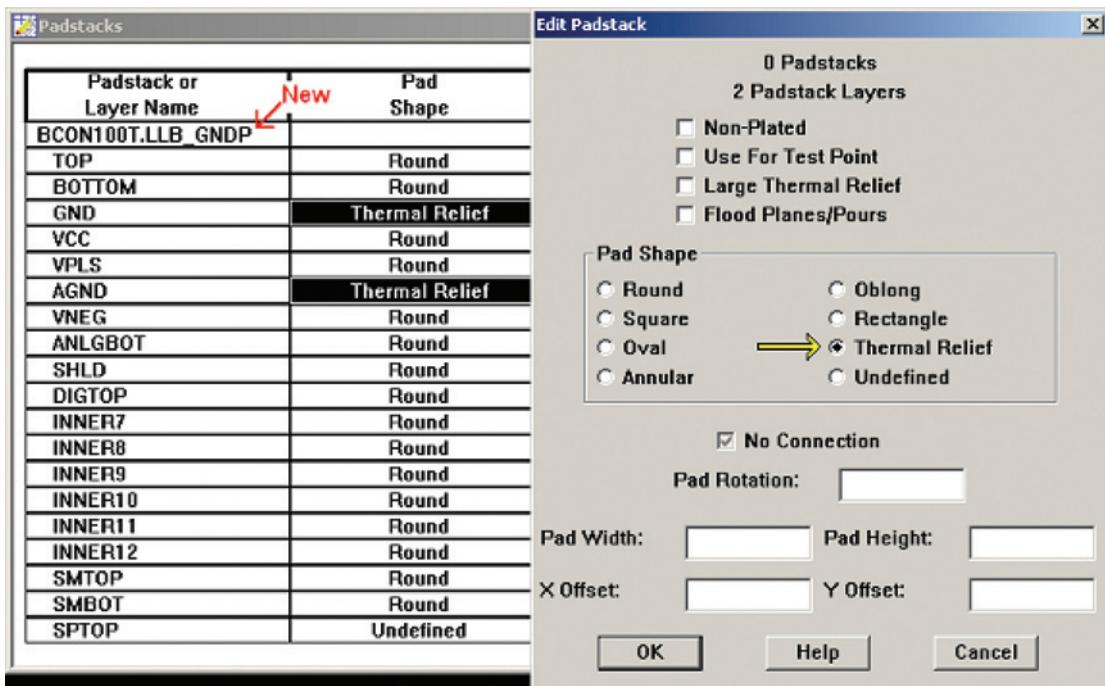

Figure 9-118 Forcing a padstack to connect the GND and AGND planes.
Once the ECO is complete, the connections can be made between the AGND plane and the GND plane by shorting them together at pin J1.3. To modify the J1 footprint use **Enable Editing of Footprints** (from **Options → User Preferences** menu). Find out the characteristics of the existing pin by selecting J1.3 using the Pin tool, **①** open the **Padstacks** spreadsheet, and BCON100T.LLB\_PAD1 will be highlighted (since that is what J1.3 is). With BCON100T.LLB\_PAD1 selected, right click, and select **New...** from the pop-up. A new padstack is created with the default name BCON100T.LLB\_PAD3 (BCON100T.LLB\_PAD2 is for the square ones J1.1 and J1.10). Select the BCON100T.LLB\_PAD3 cell, right click, and select **Properties...** from the pop-up. Change the name to something like BCON100T.LLB\_GNDP (for ground post) and click **OK**. On the spreadsheet select the GND and AGND cells, right click, and select **Properties...** from the pop-up. Change the Pad Shape to **Thermal Relief** as shown in Fig. 9-118. Click **OK** and close the spreadsheet. Assigning the thermal reliefs to the pads on the layers used as ground plane will short them together regardless of what the netlist says. Since Layout assumes you are doing this on purpose it will not generate a DRC error (even if you inadvertently short the wrong planes together).